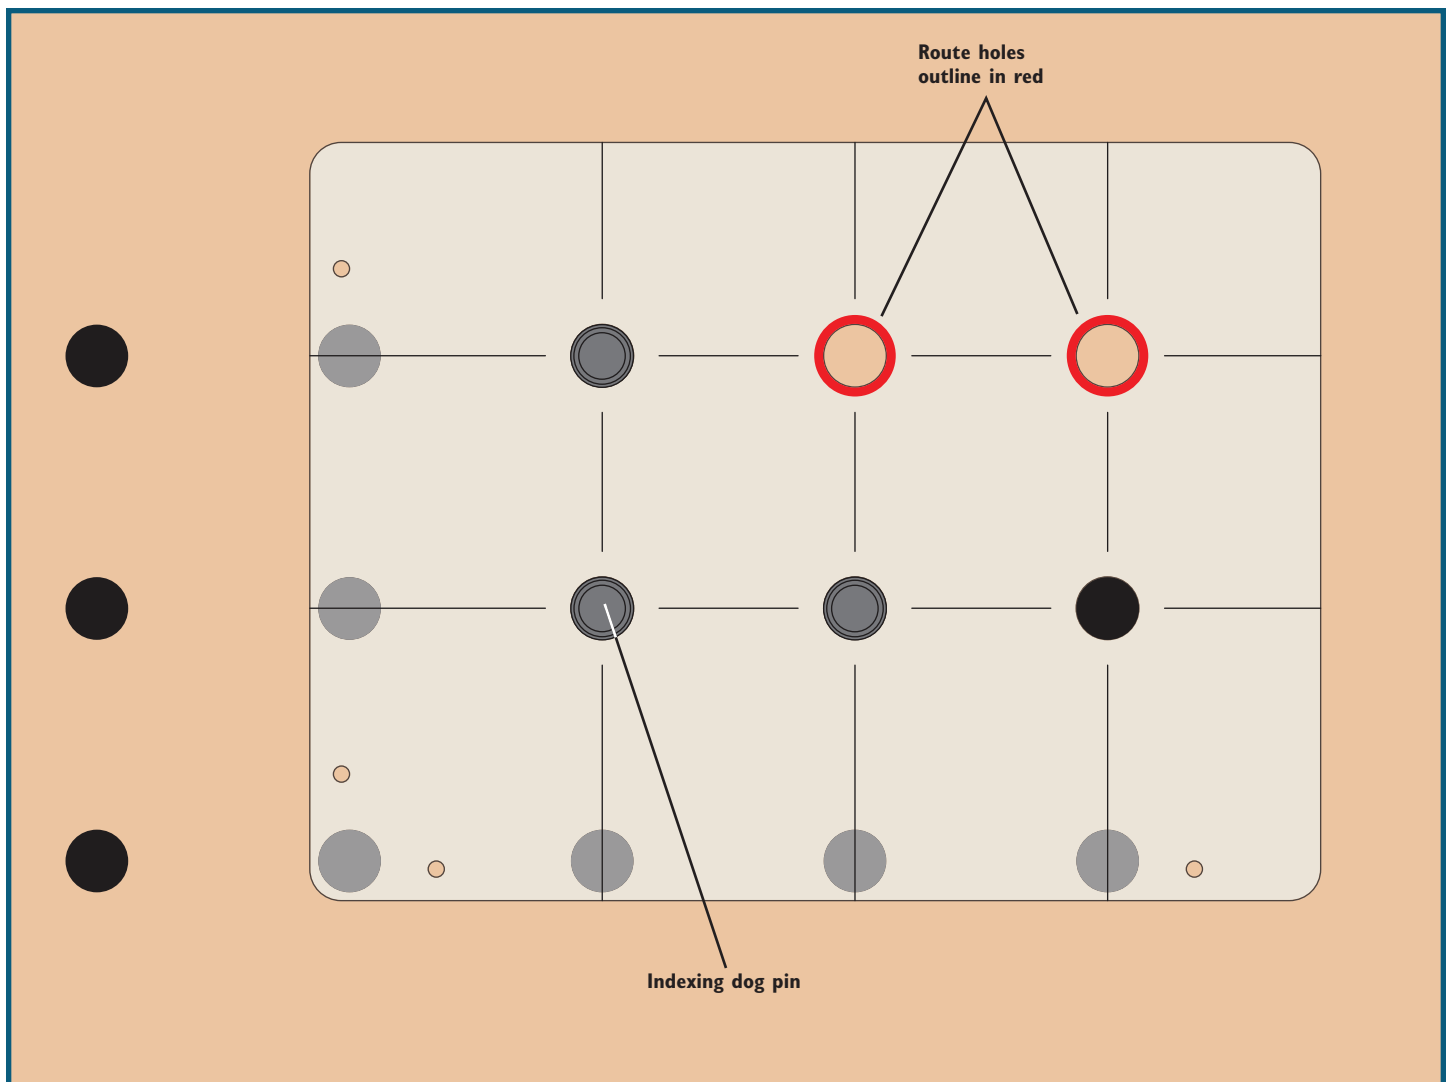

Fig. 4
3. Press three indexing dog pins tightly into the overlapping holes to perfectly position and secure the template in place. **Fig. 4.** The template should not move when the indexing dog pins are installed correctly.